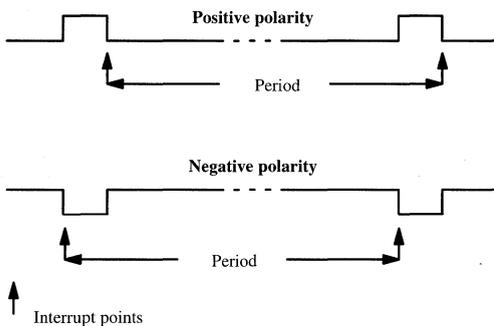

Figure 6. Vsync frequency measurement
- In first interrupt of the cycle, timer 0 is programmed to be used as free running timer with $f_{osc}/12$ clock. TR0 bit is set to start counting (GATE bit is reset). In the second interrupt, TR0 bit is reset to stop counting. At this time, TH0 and TL0 registers contain a representative value of the Vsync period (in μs if 12MHz crystal is used) (see Figure 6).